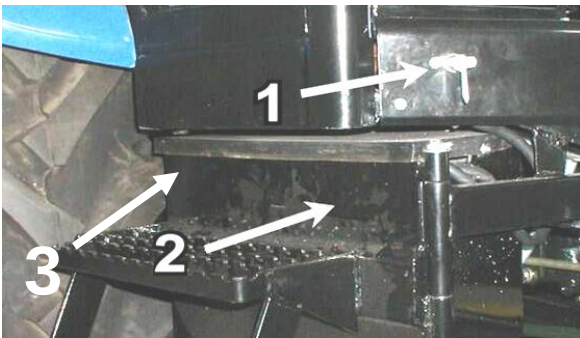

Fig. 4.2 Earth switch and battery
- switch on the earth switch (Fig. 4.2.),